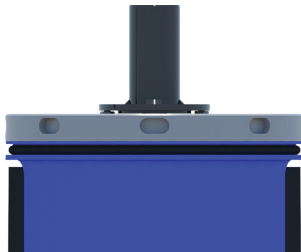

Figure 52
**NOTE:** Ensure that the auto-e pins have been actuated by the insertion tool (see Figure 52).